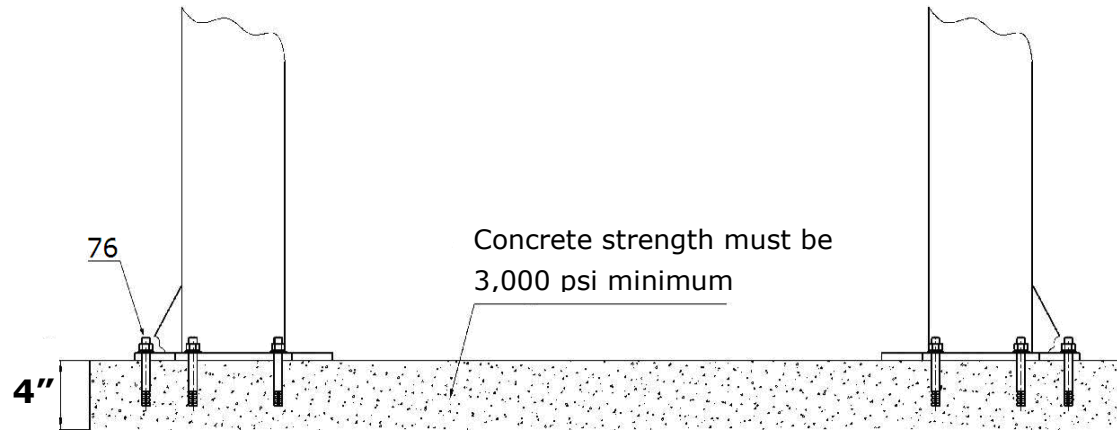

Fig. 4
B. CONCRETE SPECIFICATIONS (See Fig. 4)